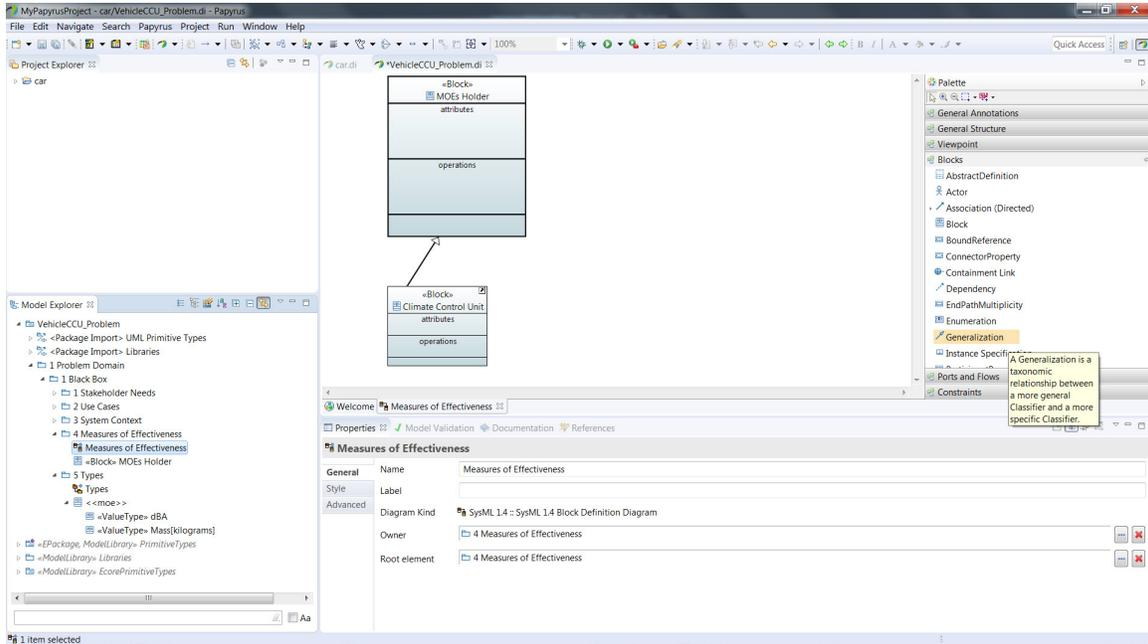

Figure 82: Creating Generalization in the bdd.
- Using the **Blocks** tool palette on the right, select **Generalization** and then in the block definition diagram Click on the *Climate Control Unit* block and then Click on the *MOEs Holder* block. The generalization arrow will appear on the diagram (figure 82).